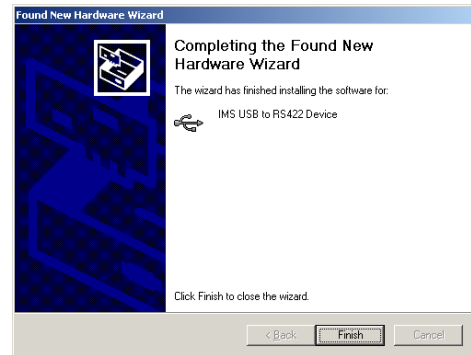

Figure D.11: Hardware Update Wizard Finish Installation
- 9) The Driver Installation will proceed. When the Completing the Found New Hardware Wizard dialog appears, Click “Finish” (Figure D.11).